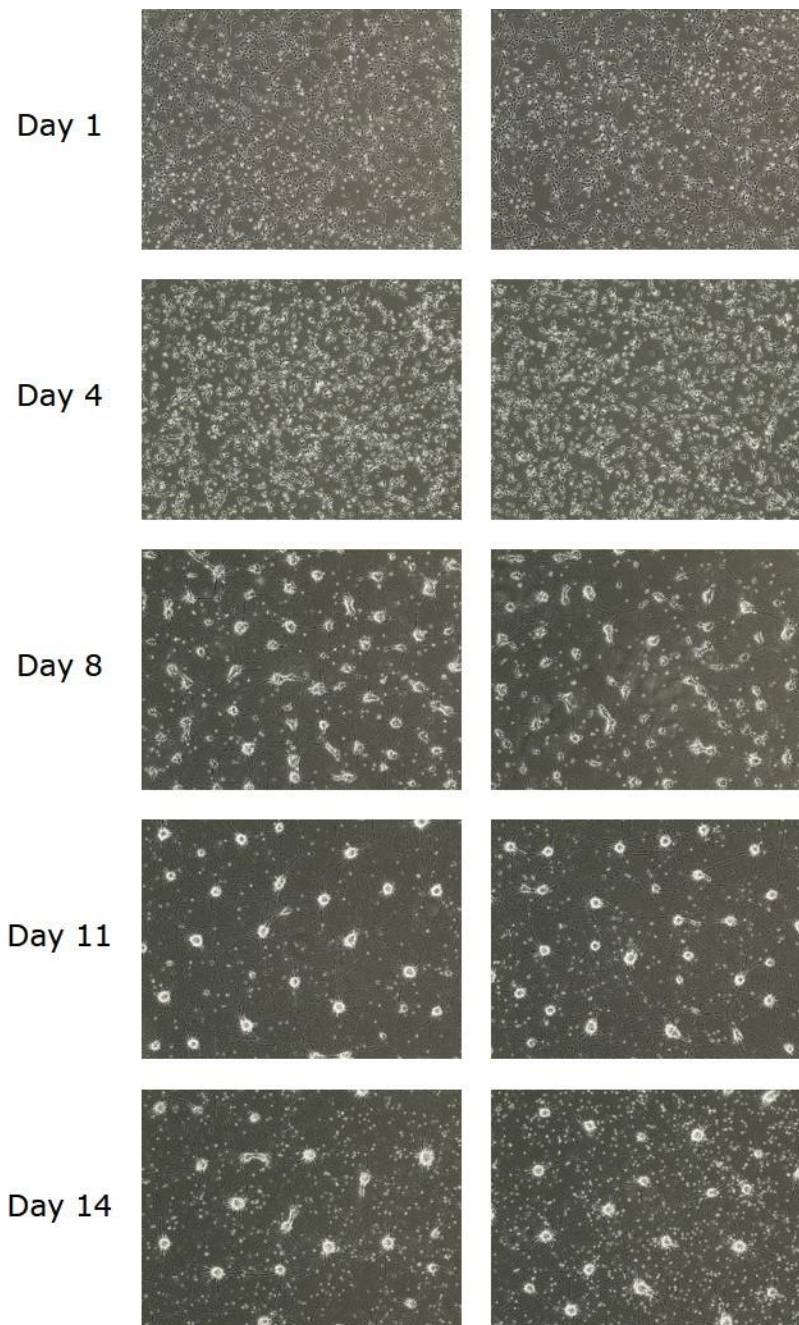

Figure 6. Bright-field phase-contrast of FA04 motor neurons at days 1, 4, 8, 11, and 14 after plating in final motor neuron differentiation media.
- MNPs should be fully differentiated into motor neurons after 2 weeks in final motor neuron differentiation media (Figure 6).